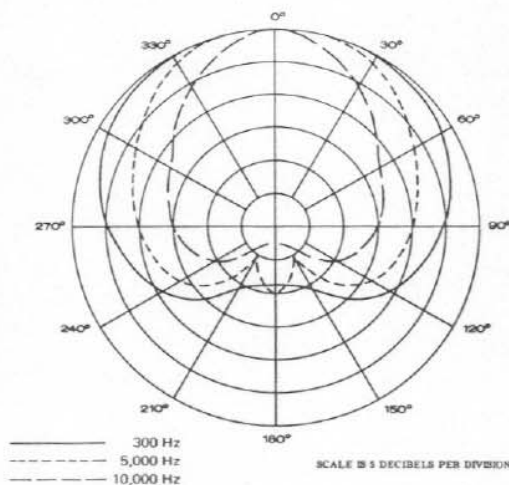

Figure 2 - Polar Pattern
- Polar Pattern: Cardioid (Figure 2)